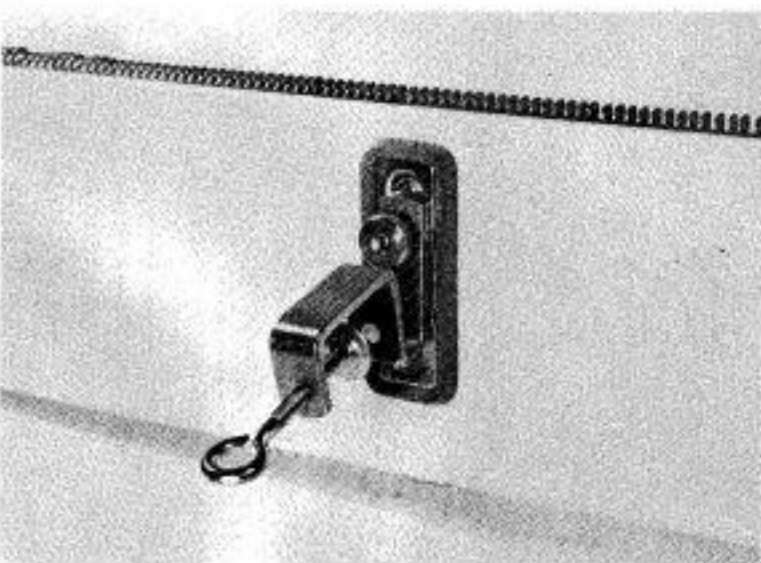

Fig. 8
4. Fit clamps into the sockets at base of the machine. (Fig. 8)